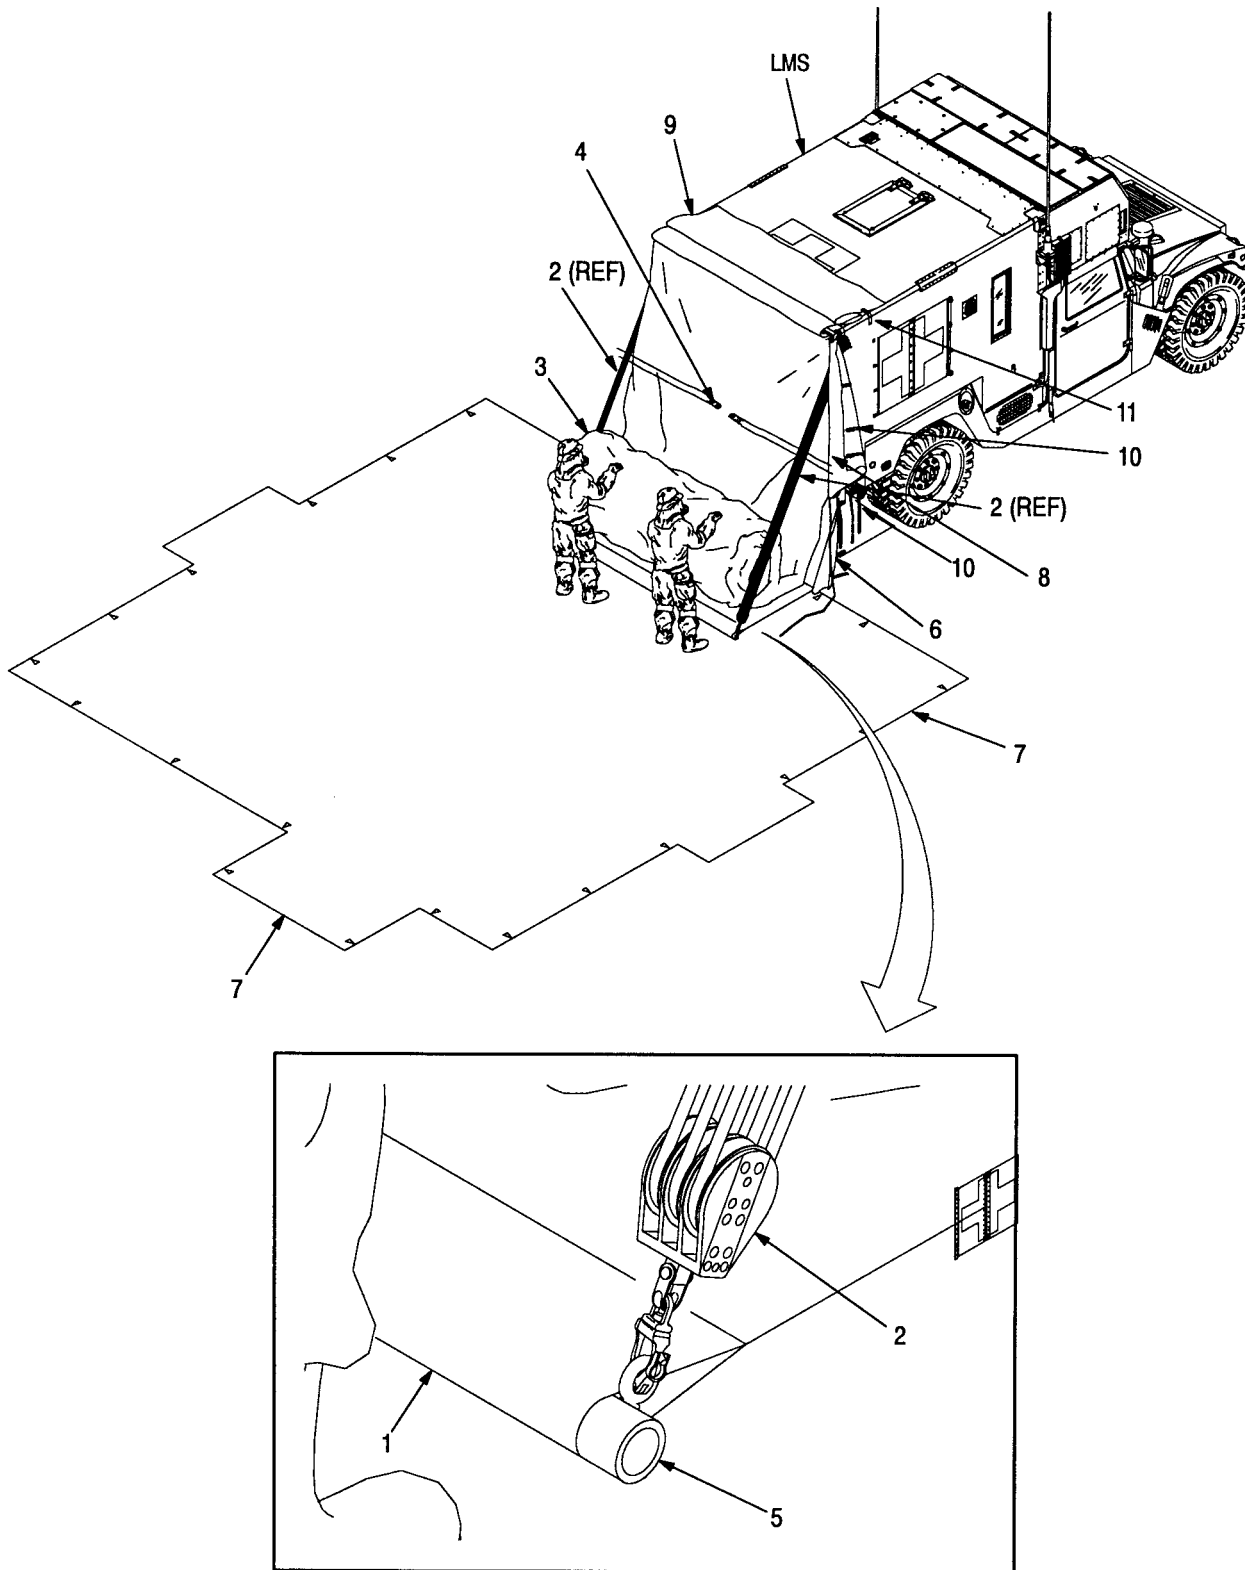

Figure 2-55. Packing the ABS
When folded, ABS should not extend beyond anchor tube (5, figure 2-55).
- (12) Walk on ABS to remove as much air as possible.
- (13) Push ABS up against tailgate.
- (14) Fasten retention strap (4, figure 2-55).
- (15) Verify anchor tube (5) is in lower transport cover (1). Ensure both eye bolts are outside lower transport cover (1). Pull lower transport cover (1) away from tailgate (6).